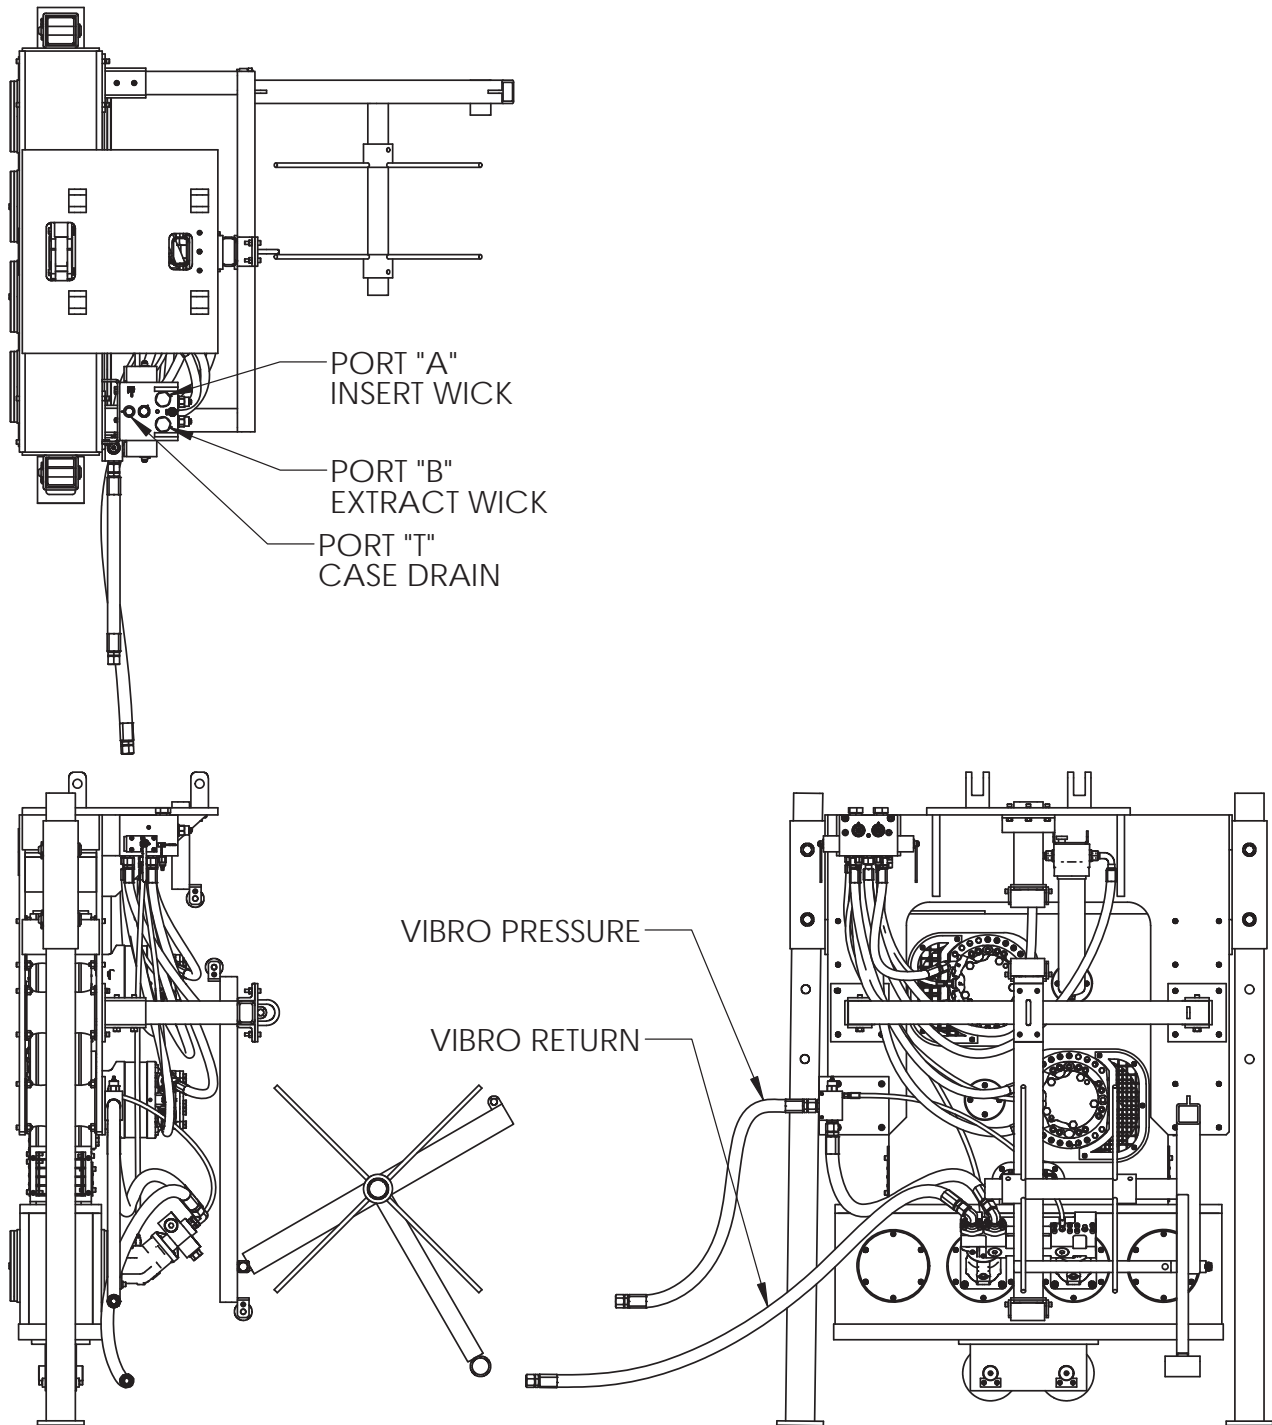

Fig. 2-1
a. The inserter gear box motor and crowd / extraction motors are connected to the base rig by five hydraulic hoses (Fig. 2-1) on the previous page.